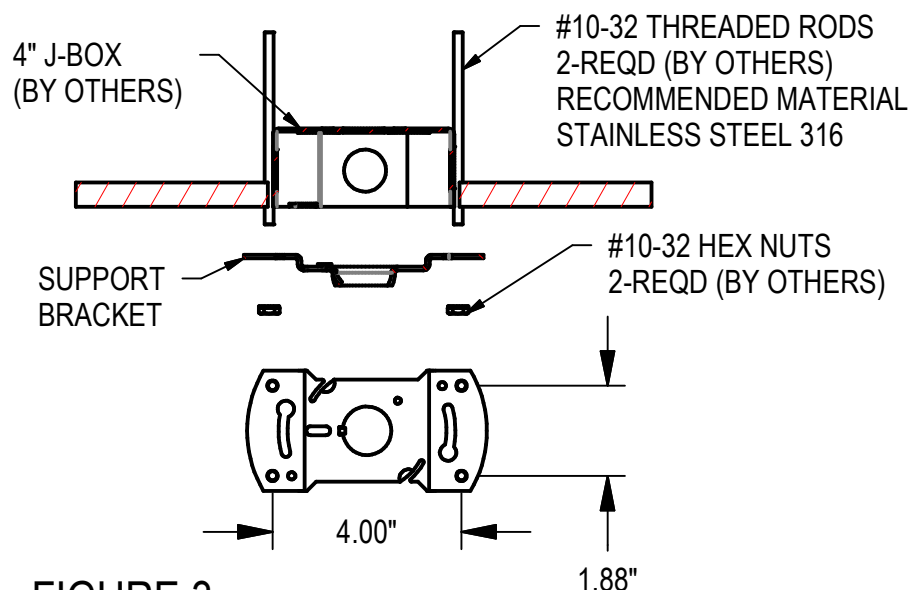

FIGURE 3
7. Additional mounting is required (by others) to support fixture. (See FIGURE 3)